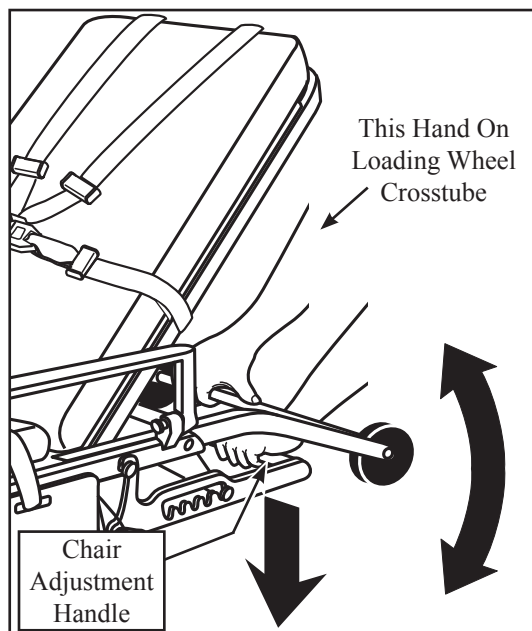

Figure 2 - Adjusting the Chair Position
3. Grasp the loading wheel crosstube with one hand and press down on the chair adjustment handle with the other hand (Figure 2).